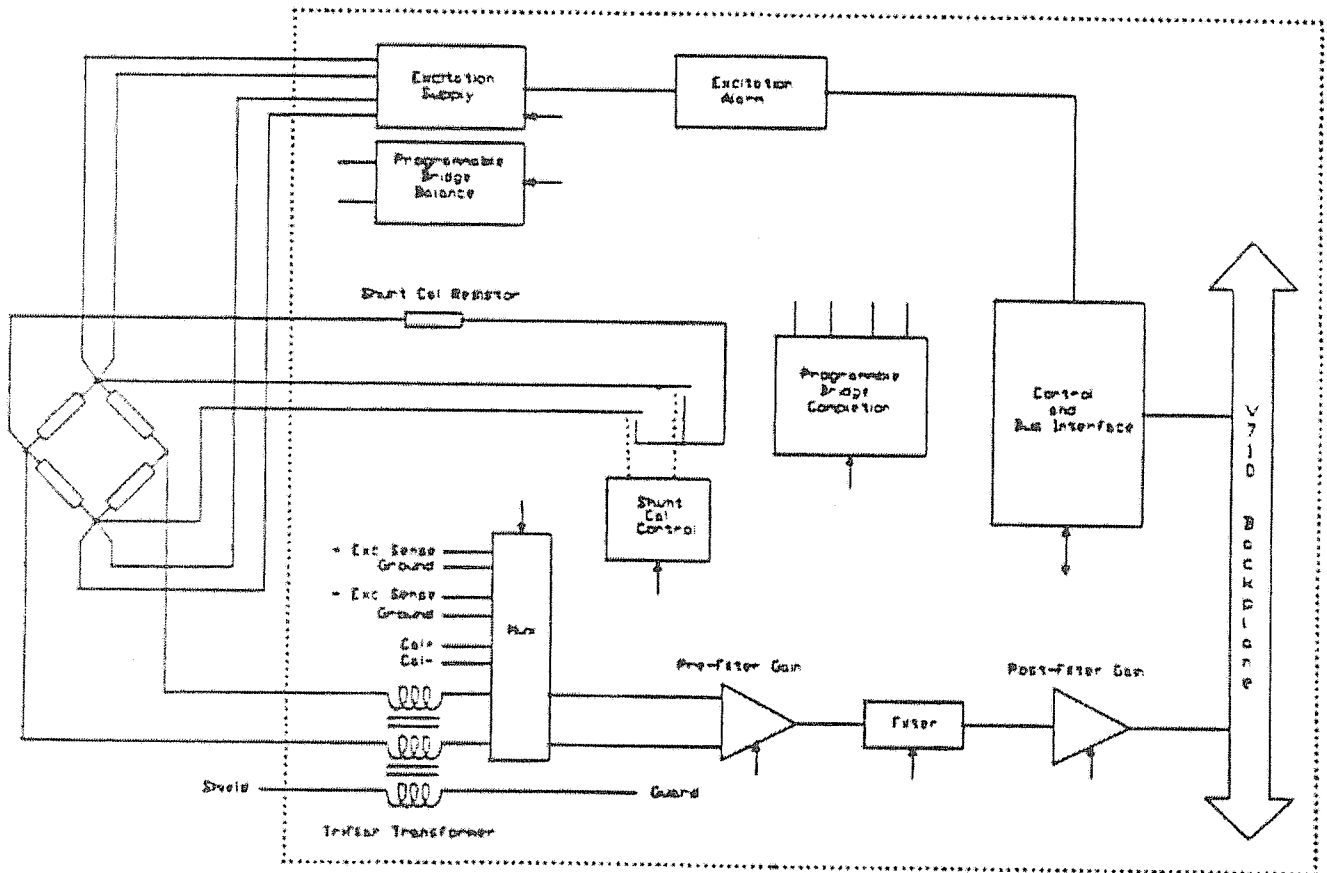

FIGURE 1 - SC21 2-Channel Bridge Signal Conditioner
The SC21 contains two (2) channels of bridge signal conditioning (Refer to Figure 1) with each channel supplying bridge completion circuitry and independent bridge excitation circuitry. In addition, the SC21 provides programmable gain per channel and 2-pole, active, low-pass Butterworth filters on each channel. Filter cutoff frequencies of 10, 50 and 500 Hz plus bypass are software-selectable. Software-selectable pre-filter gains of 1, 10, 100, 1000 and post-filter gains of 1, 2, 5, 10 are provided. The maximum overall gain setting is 2000. Optional trifilar transformers are available for noisy environments or where long input cabling is required. These transformers reduce RF and common mode voltages to the input of the SC21.